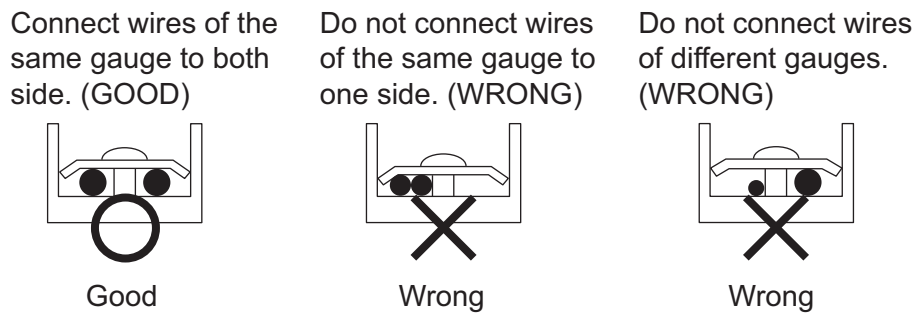

Fig. 24
- Do not connect wires of different diameter to the same power supply terminal. (Looseness in the connection may cause overheating.) (Refer to Fig. 24)